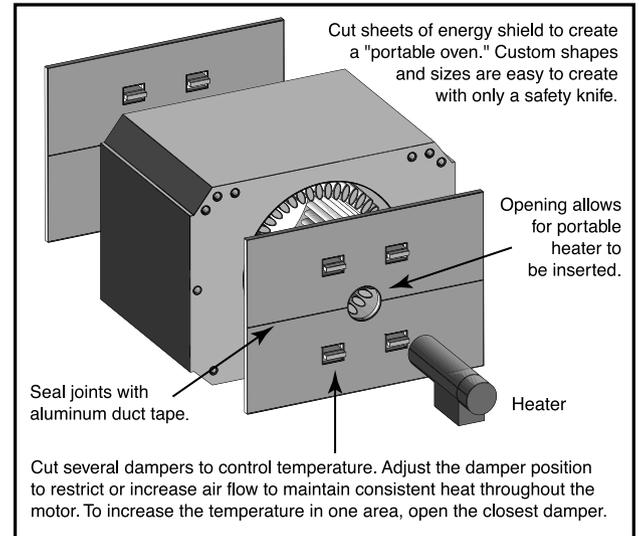

Figure 2 - Temporary oven.
**Heat sources.** To heat the temporary oven, force air through it from an alternate heat source. If you use a torpedo heater (see Figure 2), position it to blow hot air directly into the center of the bore. Energy calculations for oven design are complex. For this purpose, 100,000 BTU per 1200 cubic feet of oven volume will be adequate to heat the oven and contents within a reasonable time.
Because heat rises, it might seem reasonable to open exhaust ports at the top to let it out. But as those familiar with old-fashioned wood stoves can tell you, the best way to control oven temperature is to open or close dampers (exhaust ports) near all four corners on both sides (see Figure 2).